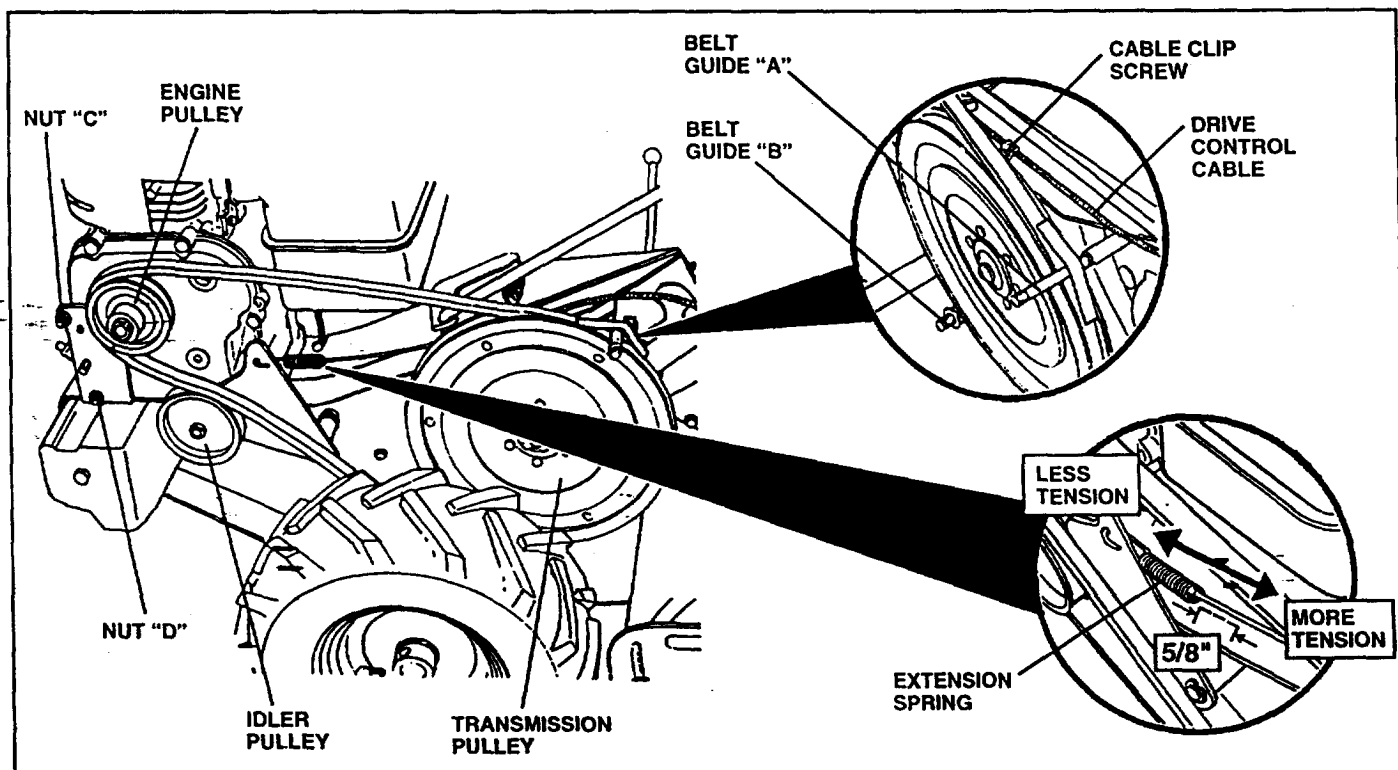

FIG. 26
- New tines should be assembled as shown in Fig. 26. Sharpened tine edges will rotate rearward from above.
## GROUND DRIVE BELT ADJUSTMENT (See Fig. 26)